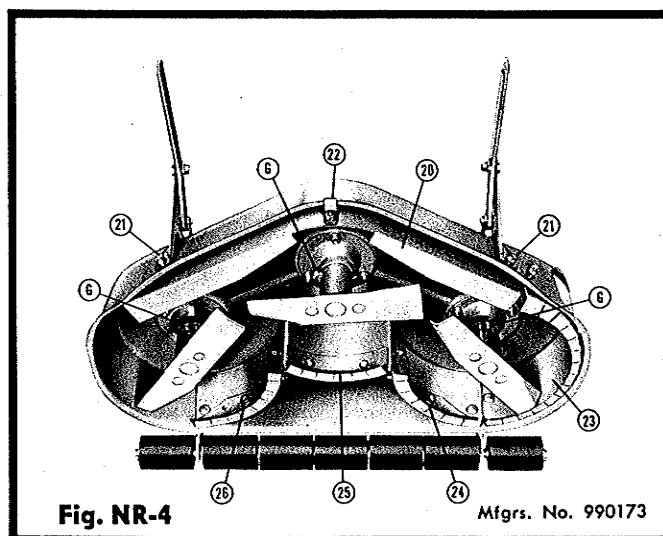

Fig. NR-4
A leaf mulcher is provided as standard equipment. It consists of five baffles which should be attached to the housing as illustrated in Fig. NR-4. The front baffle (20) is positioned on the inside front of the housing and is secured by two carriage bolts (21) and the clamp (22) which fits over the housing flange. The baffle (23) which covers the grass exhaust port and the other three baffle sections (24), (25), (26) are fastened into place as shown in Fig. NR-4, with the bolts provided. After the baffles are in place, the blades should be rotated slowly to see that there is proper clearance between the baffle flanges and the blades.